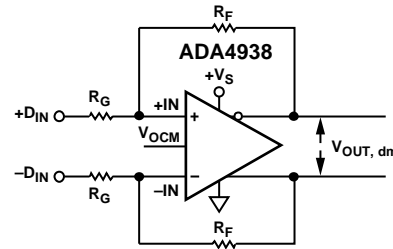

Figure 59. ADA4938 Configured for Balanced (Differential) Inputs
The effective input impedance of a circuit depends on whether the amplifier is being driven by a single-ended or differential signal source. For balanced differential input signals, as shown in Figure 59, the input impedance ( $R_{IN, dm}$ ) between the inputs (+DIN and -DIN) is simply  $R_{IN, dm} = 2 \times R_G$ .
**Table 10. Differential Ground-Referenced Input, DC-Coupled; See Figure 59**